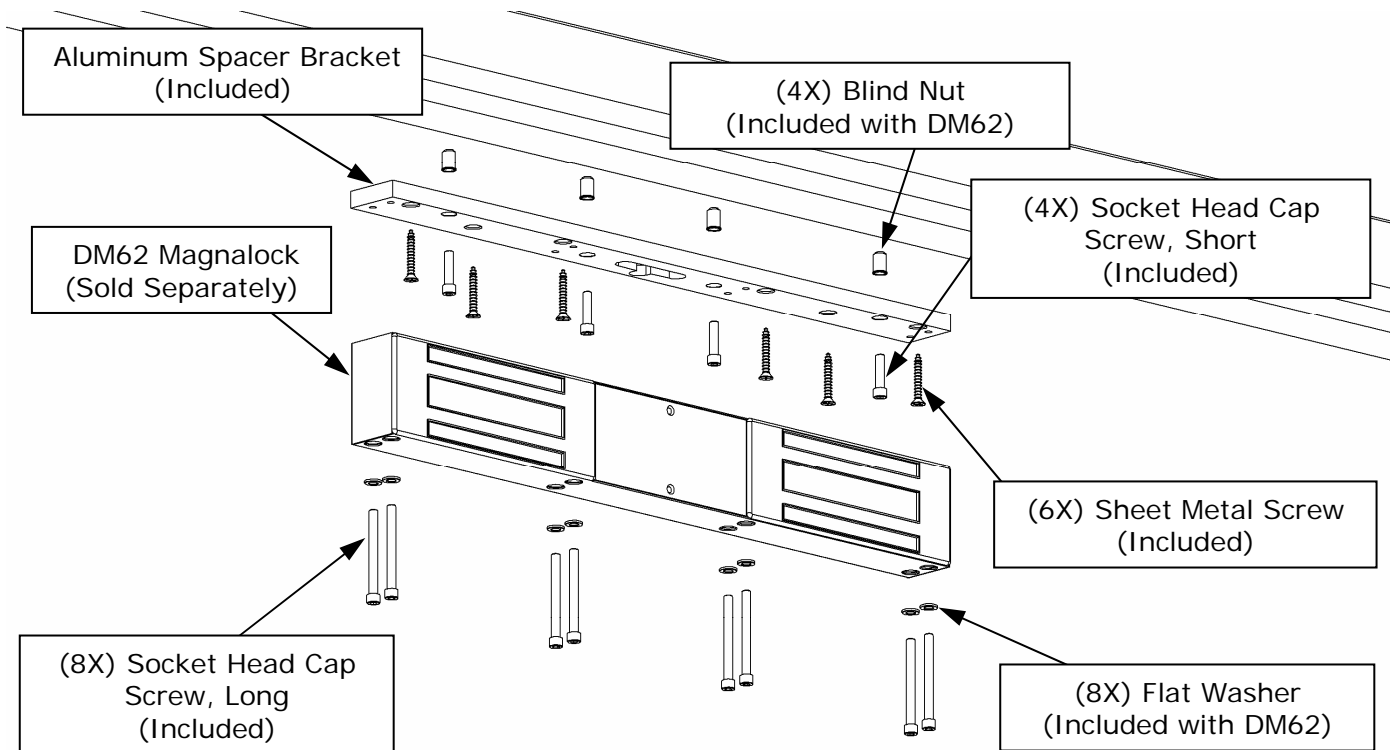

Figure 5
Mounting the spacer bracket onto a steel concrete filled frame header requires the four (4) blind nuts, four (4) short socket cap screws and the six (6) sheet metal screws provided for the installation. The blind nuts and the sheet metal screws ensure a safe mounting of the Magnalock reducing the possibility of the Magnalock becoming loose during regular use. **Figure 5** illustrates a visual concept of the parts that will secure the bracket for the Magnalock installation.